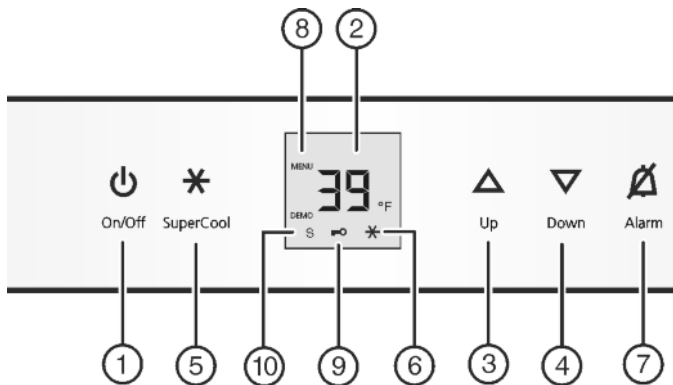

Fig. 3
- ▶ Press On/Off button Fig. 3 (1).
- ▶ Activate setting mode: Press SuperCool button Fig. 3 (5) for about 5 seconds.
- ▷ The SuperCool button Fig. 3 (5) will flash.
- ▶ Using Up button Fig. 3 (3)/ Down button Fig. 3 (4) select °.
- ▶ To confirm: Briefly press SuperCool button Fig. 3 (5).
- ▶ Using Up button Fig. 3 (3)/ Down button Fig. 3 (4) select °F or °C.
- ▶ To exit setting mode: Press On/Off button Fig. 3 (1).
- ▶ Select setting mode: Press and hold the SuperCool button Fig. 3 (5) for approx. 5 seconds.
- ▶ Using the Up Fig. 3 (3) or Down button Fig. 3 (4), select c.
- ▶ Press the SuperCool button Fig. 3 (5) briefly to confirm. When c1 is shown on the display:
- ▶ To switch on the child proof lock, press the SuperCool button Fig. 3 (5) briefly.
- ▷ The Child safety symbol Fig. 3 (9) lights up. c flashes on the display.
- ▶ To switch the child proof lock off, press the SuperCool button Fig. 3 (5) briefly.
- ▷ The Child safety symbol Fig. 3 (9) goes out. c flashes on the display.
- ▶ To deactivate setting mode: Press the On/Off button Fig. 3 (1).
- ▶ Press Alarm button *Fig. 3 (7)*.
- ▶ To activate setting mode: Press and hold the SuperCool button *Fig. 3 (5)* for approx. 5 s.
- ▷ The Menu symbol *Fig. 3 (8)* lights up.
- ▶ To access the Sabbath mode function: Briefly press the SuperCool button *Fig. 3 (5)*.
- ▶ To turn on Sabbath mode, briefly press the SuperCool button *Fig. 3 (5)*.
- ▶ To turn off Sabbath mode, briefly press the SuperCool button *Fig. 3 (5)*.
- ▶ To deactivate setting mode: Press the On/Off button *Fig. 3 (1)*.
- ▷ The Sabbath Mode symbol *Fig. 3 (10)* appears on the temperature display as long as Sabbath Mode is active.